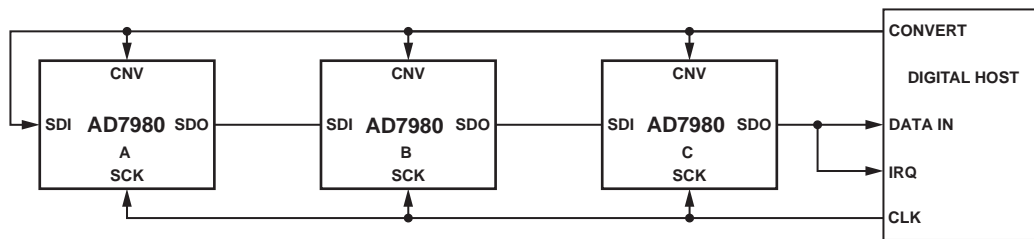
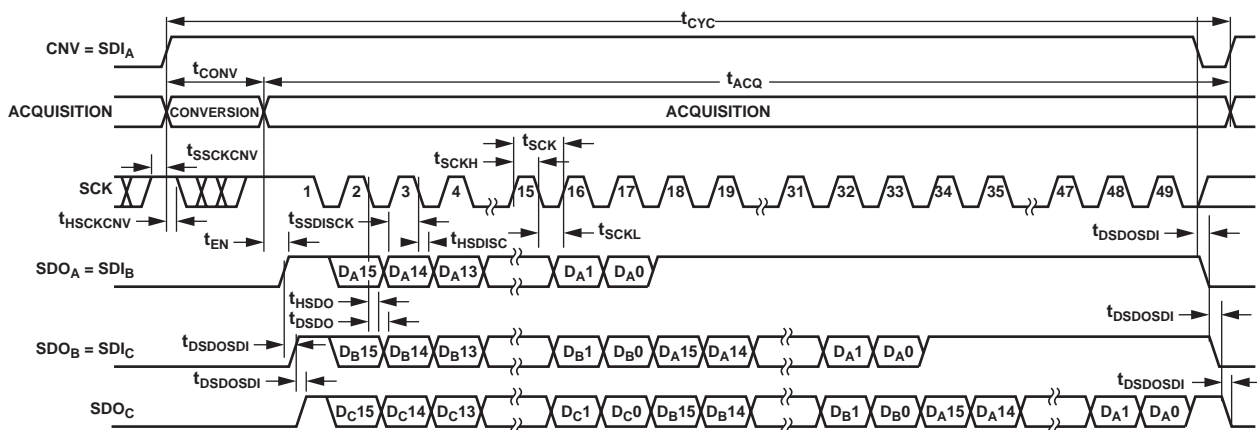

Figure 25. Chain Mode with BUSY Indicator Connection Diagram
Figure 26. Chain Mode with BUSY Indicator Serial Interface Timing
- In the chain mode, if SCK is high during the CNV rising edge (Figure 26).
A connection diagram example using three AD7980s is shown in Figure 25 and the corresponding timing is given in Figure 26.
subsequent data readback. When all ADCs in the chain have completed their conversions, the nearend ADC ( ADC C in Figure 25) SDO is driven high. This transition on SDO can be used as a BUSY indicator to trigger the data readback controlled by the digital host. The AD7980 then enters the acquisition phase and powers down. The data bits stored in the internal shift register are then clocked out, MSB first, by subsequent SCK falling edges. For each ADC, SDI feeds the input of the internal shift register and is clocked by the SCK falling edge. Each ADC in the chain outputs its data MSB first, and  $16 \times N + 1$  clocks are required to readback the N ADCs. Although the rising edge can be used to capture the data, a digital host using the SCK falling edge allows a faster reading rate and, consequently more AD7980s in the chain, provided the digital host has an acceptable hold time.